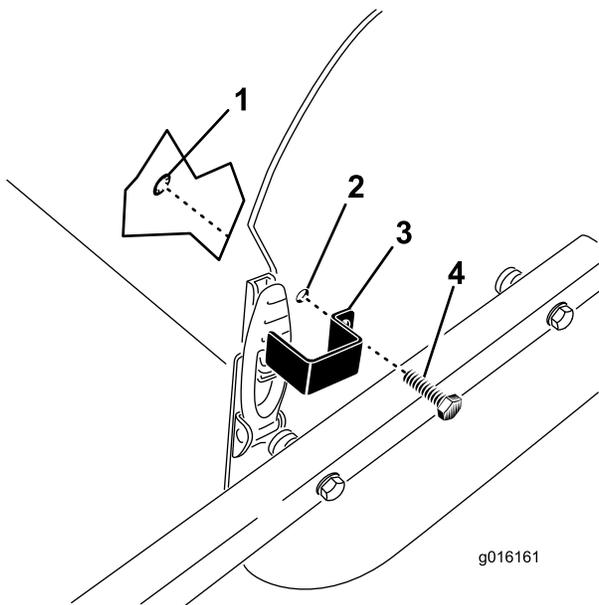

Figure 31
1. Position the latch plate over the hood latch while aligning the mounting hole with the hole in the side plate (Figure 31).